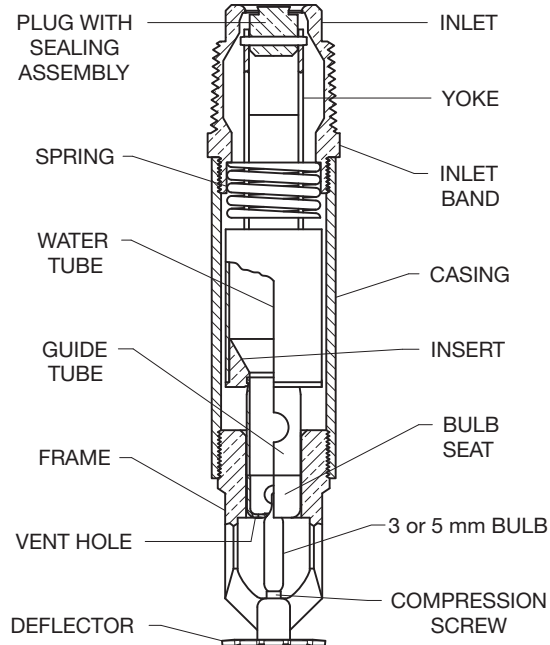

FIGURE 1
The Sealing Assembly consists of a Disc Spring that is sealed on both its inside and outside faces with a TEFLON gasket. The Disc Spring is 1/2 Hard Beryllium Nickel. Refer to Figures 1 through 3 for component assemblies.
When TYCO Series DS-1 Stainless Steel Dry-Type Sprinklers, 5.6K Pendent, Horizontal Sidewall (HSW), and Extended Coverage HSW, Standard (5 mm bulb) and Quick (3 mm bulb) Response are in service, water is prevented from entering the assembly by the Plug with Sealing Assembly in the Inlet of the sprinkler. Refer to Figures 1 through 3.
Step 3. Wrench-tighten the sprinkler using a pipe wrench on the Inlet Band or Casing (refer to Figures 1 to 3) or using the W-Type 7 Sprinkler Wrench on the Wrench Flat (refer to Figure 9).
A Vent Hole is provided in the Bulb Seat to indicate if the Dry Sprinkler is remaining dry. (Refer to Figures 1 through 3.) Evidence of leakage from the Vent Hole indicates potential leakage past the Inlet seal and the need to remove the sprinkler to determine the cause of leakage; for example, an improper installation or an ice plug. Close the fire protection system control valve and drain the system before removing the sprinkler.